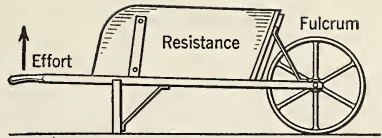
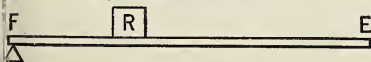

FIG. 243. The wheelbarrow is a second-class lever.
FIG. 242. The second-class lever.
2. Sometimes the effort is applied at one end of a lever and the fulcrum is at the other end. The resistance is placed between the effort and the fulcrum. (See Fig. 242.) Such a lever is known as a *second-class* lever. In a wheelbarrow, the axle of the wheel is the fulcrum. The effort is applied at the ends of the handles, and the load or resistance is between the two. (See Fig. 243.) Since the effort arm of a second-class lever is the *whole* lever, and the resistance arm is only a *part* of the lever, EF is always greater than RF . The mechanical advantage of such a lever is always *more than one*. The nutcracker and the baggage-truck are other examples of this class of lever.